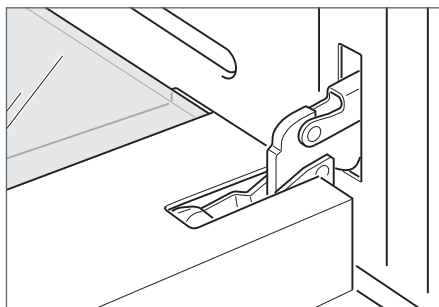

Fig. 59a
- Fully open the oven door (Fig. 59a).
- 1 Make sure the door is locked open (see Figs. 59a - 59c).